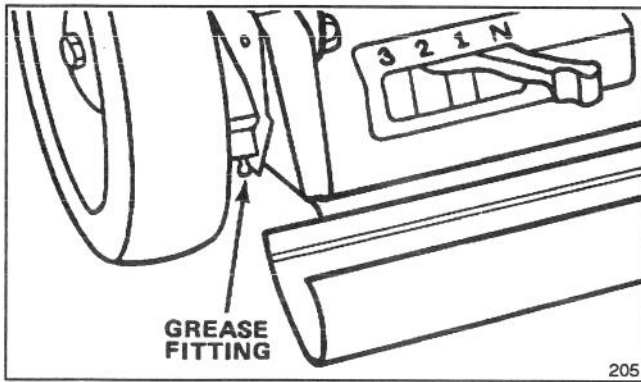

Figure 28
1. Mower rear wheel height-of-cut levers to "2" setting. Wipe grease fittings with clean rag (Fig. 28). Install grease gun onto fitting and gently apply 2 or 3 pumps of #2 Multi-Purpose Lithium Base Grease.